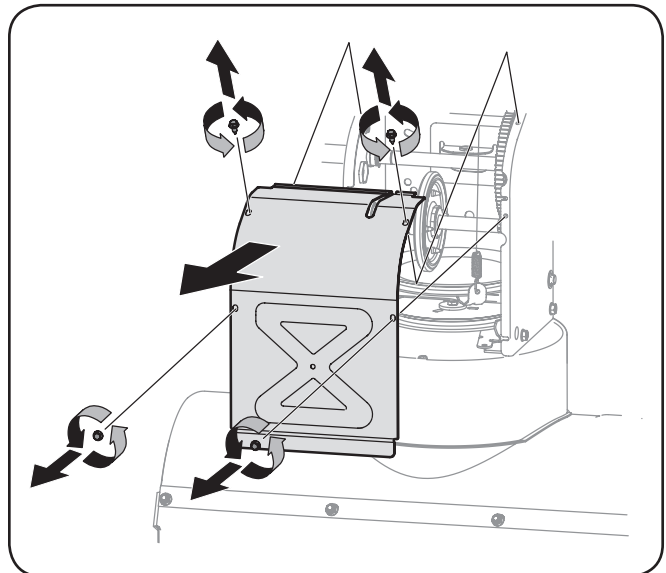

Figure 7-4
5. Remove the frame cover from the underside of the snow thrower by removing the self-tapping screws which secure it. See Figure 7-4.
3. Remove the frame cover from the underside of the snow thrower by removing four self-tapping screws which secure it. See Figure 7-4.